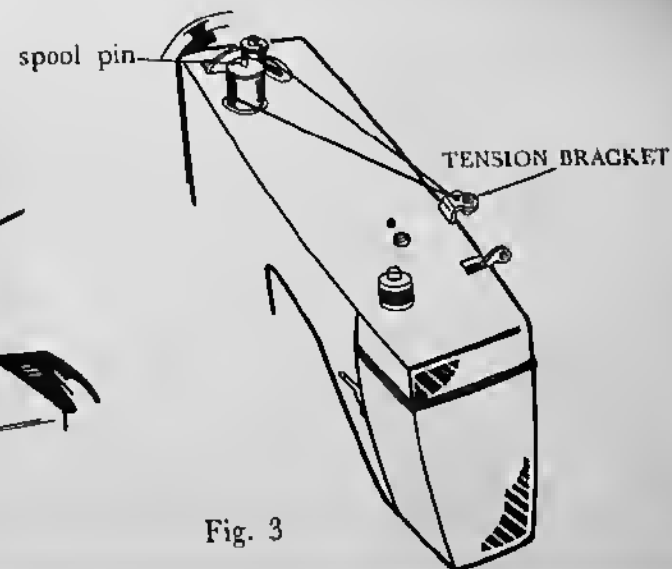

Fig. 3
- 4) Pass the thread between the discs of the tension bracket. (Fig. 3)